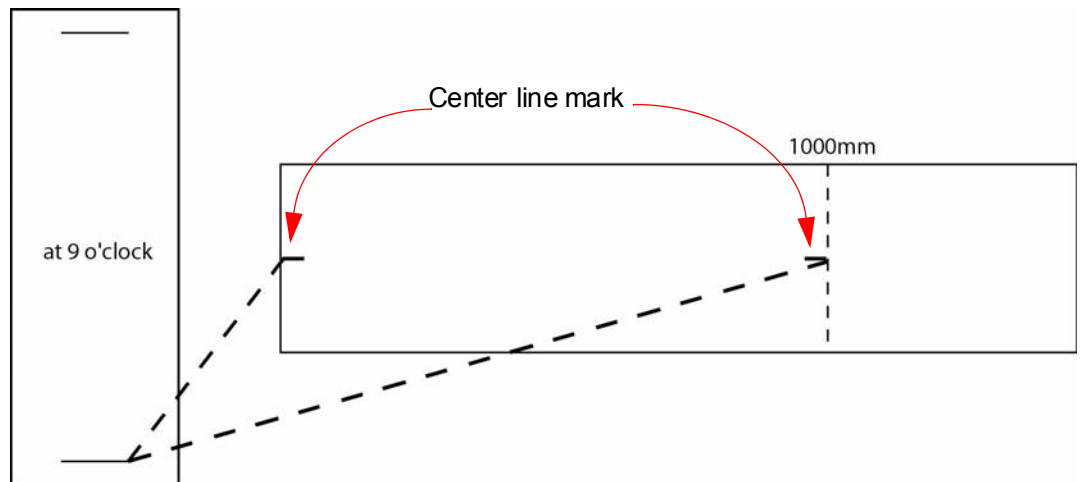

Figure 1-37 First Cradle/Table Parallel Check
- 2.) Measure the distance from the front top corner of the collimator face plate to the mark at the center front of the cradle (see Figure 1-37, Figure 1-38 and Figure 1-39). Note all measurements in Table 1-4.
- 3.) Measure the distance from the same point of the collimator face plate to the center point on the cradle at the 1000 mm mark (see Figure 1-37).